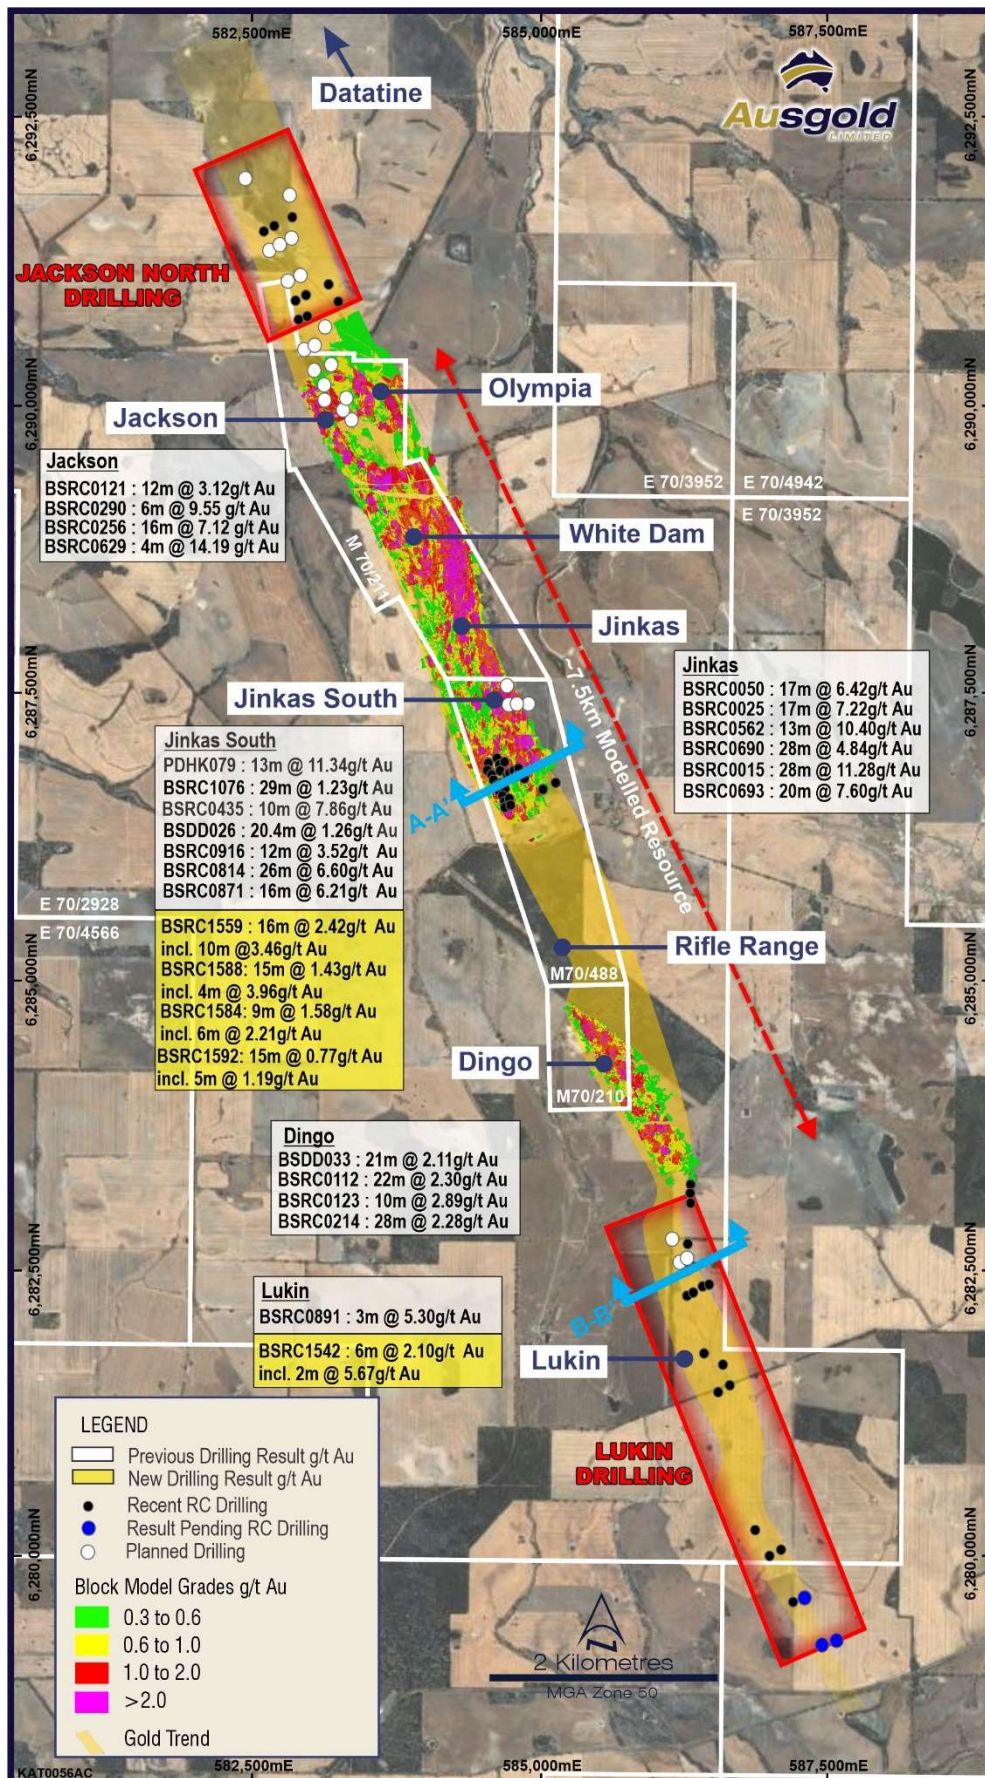

Figure 1 – GKP Resource with new and planned drilling with Resource block model
Near-surface higher grade gold mineralisation has been intercepted within the Central Zone (Figure 1) as part of the current drilling campaign (25 holes for 1,632m). These results continue to add confidence to the KGP Resource and mining model, will contribute towards increasing the average grade of the Resource, and provide high-grade feed within the early stages of the open-pit mining operation.
Nine reconnaissance RC drill holes for 959m have been completed within Northern Zone, targeting gold mineralisation over a 1.5km strike extent directly north of the current Central Zone Resource known as the Jackson area (Figure 1). To date, very limited drilling has been completed in this area, with geophysics and mapping of limited outcrop suggesting the mine sequence continues northwards from the Central Zone and potentially extends as far as the Datatine Resource area.
- RC drilling has been completed targeting the White Dam high-grade lode focusing on areas of early production identified in the Prefeasibility Study (Figure 1). Assays are pending.
- Further exploration RC drilling is planned at Lukin to follow up from promising early results with the aim to extend the current Resource southward (Figure 1). RC and diamond drilling is underway in the Northern Zone of the KGP, both at Jackson North (Figure 1) and Datatine, with the aim of this drilling being to extend the current Central Zone Resource north and increase the current Datatine Resource (currently 26Koz).